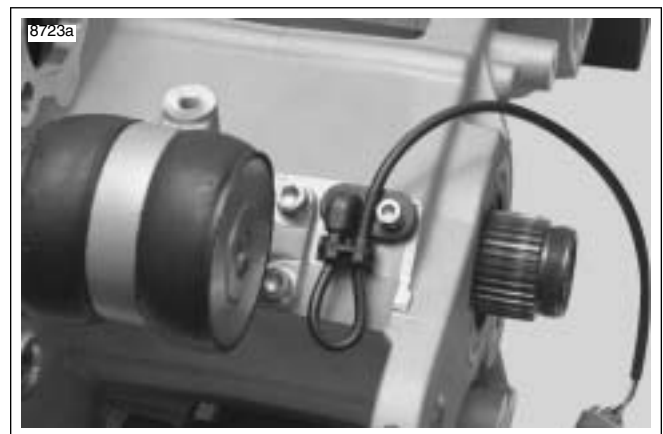

Figure 6-51. Rear Isolator Assembly
- 14. See Figure 6-51. Remove rear isolator assembly by removing the forward two fasteners first and then the two rear fasteners (re-install with **new** fasteners).